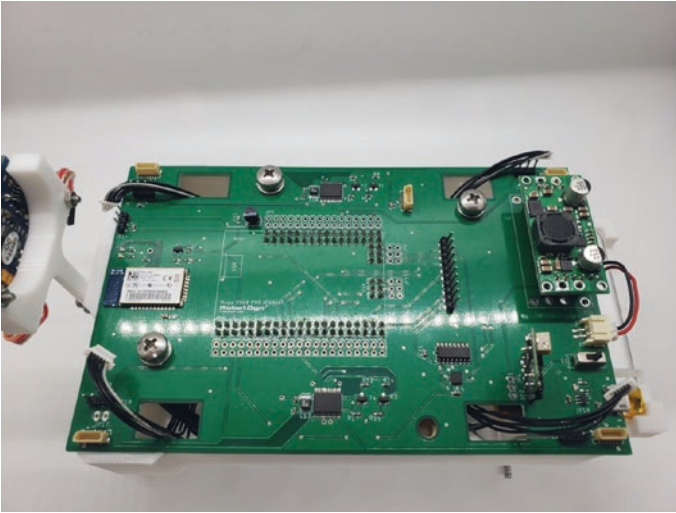

Figure 8-61. Attach the PCB to the chassis using three M5 screws
16. Attach the NatBot PCB to the NatBot chassis and use 3 x M5 screws to attach the PCB to the NatBot chassis. See Figure 8-61.